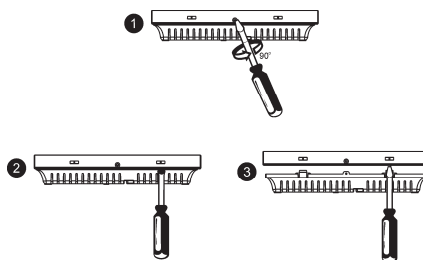

Figure 2-4: Opening the Housing
1. Remove the housing screw located at the bottom of the front cover as shown in Figure 2-4.